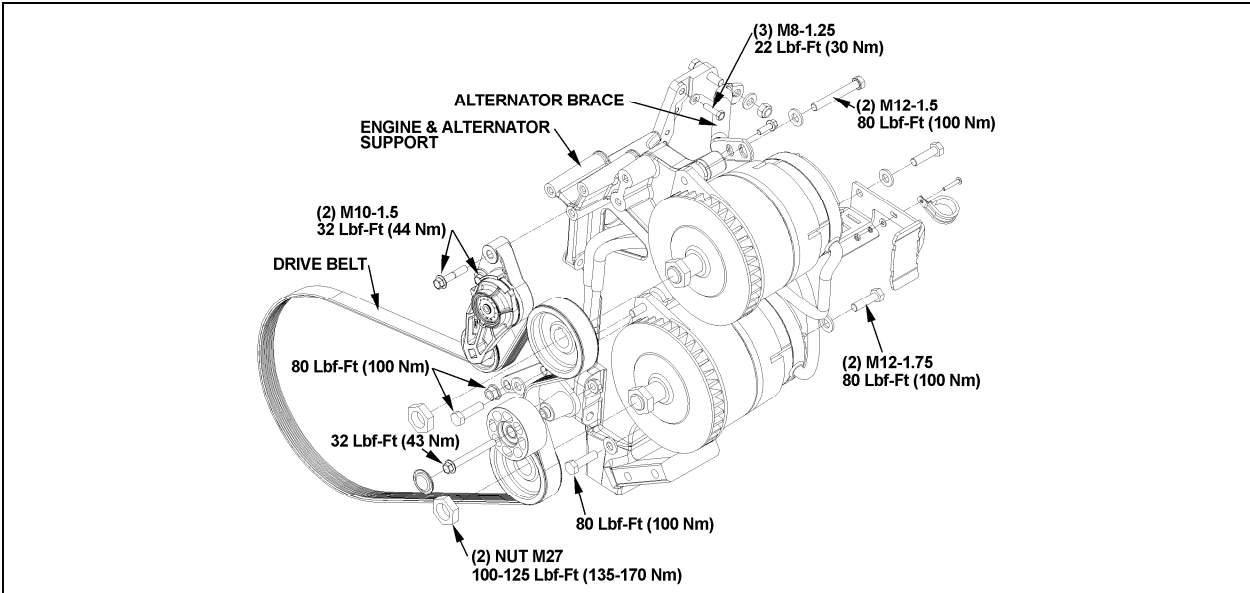

FIGURE 22: BOSCH ALTERNATORS MOUNTING TORQUES (VOLVO D13)
If the alternators needed to be removed, reinstall as follows. Refer to figures 22 and 23 for installation and tightening specifications:
1. If not already done, mount the alternator brace to the engine and alternator support (figure 22).
2. Bolt the alternators to the bracket using one 3.5 inch bolt at the top and two 1¾ inch bolts at the lower mounting bosses (fig. 22).
2. Insert a 3/4" socket drive into the automatic belt tensioner opening (Fig. 22).